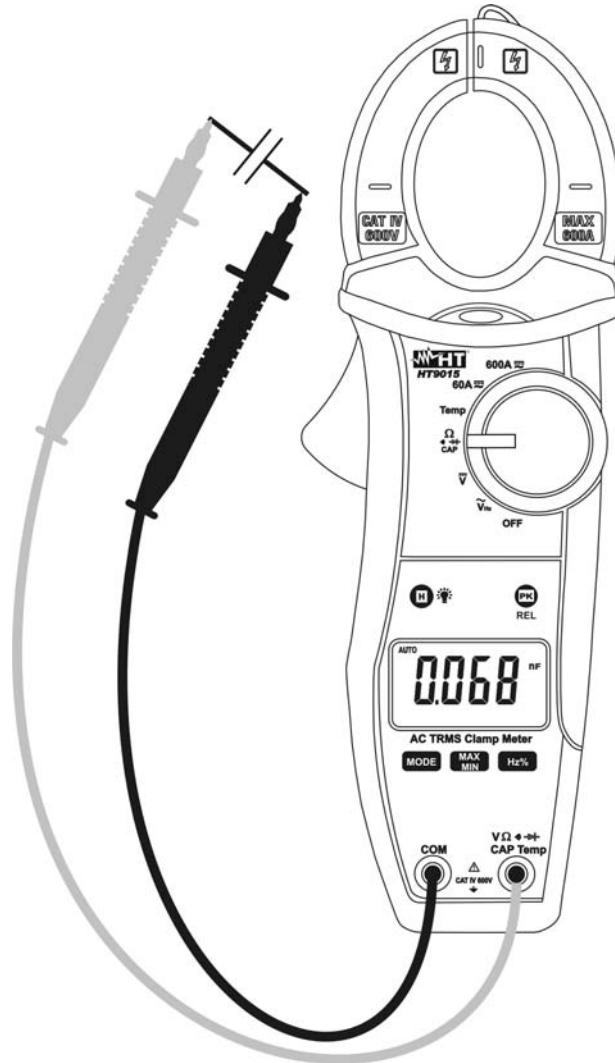

Fig. 7: Taking Capacitance measurement
3. Insert the red test lead plug into $V \Omega \cdot \text{Hz} \cdot \text{Temp}$ \rightarrow **CAP Hz % Temp** jack and the black test lead plug into **COM** jack (Fig. 7)